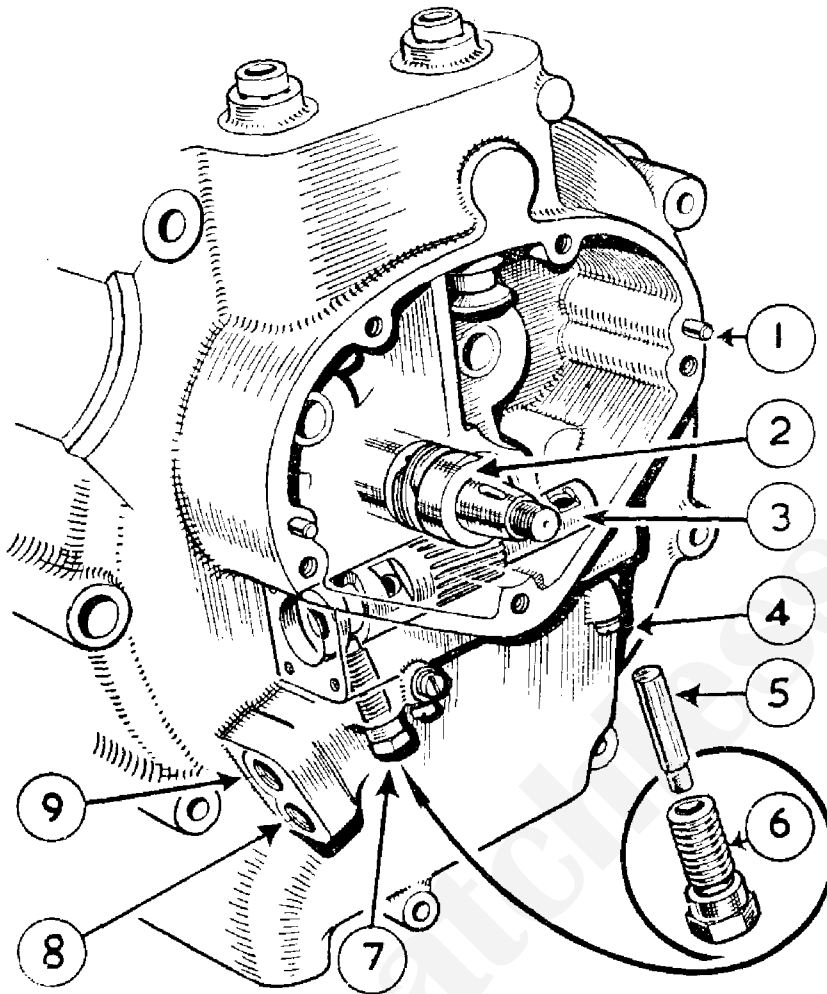

FIG. 1
**The oil pump.** The pump has only one moving part, this is the plunger (see Fig. 1), which revolves and reciprocates. Rotation is made by the worm gear on the timing side axle. Reciprocation is created by the two piece guide pin, engaged in the profiled groove machined in the pump plunger. Oil is fed by gravity to the lower of the two connections on the crankcase